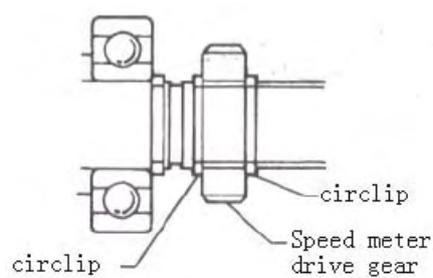

Fig 10-70
(11) Install speed meter drive gear on mainshaft. (FIG.10-70)